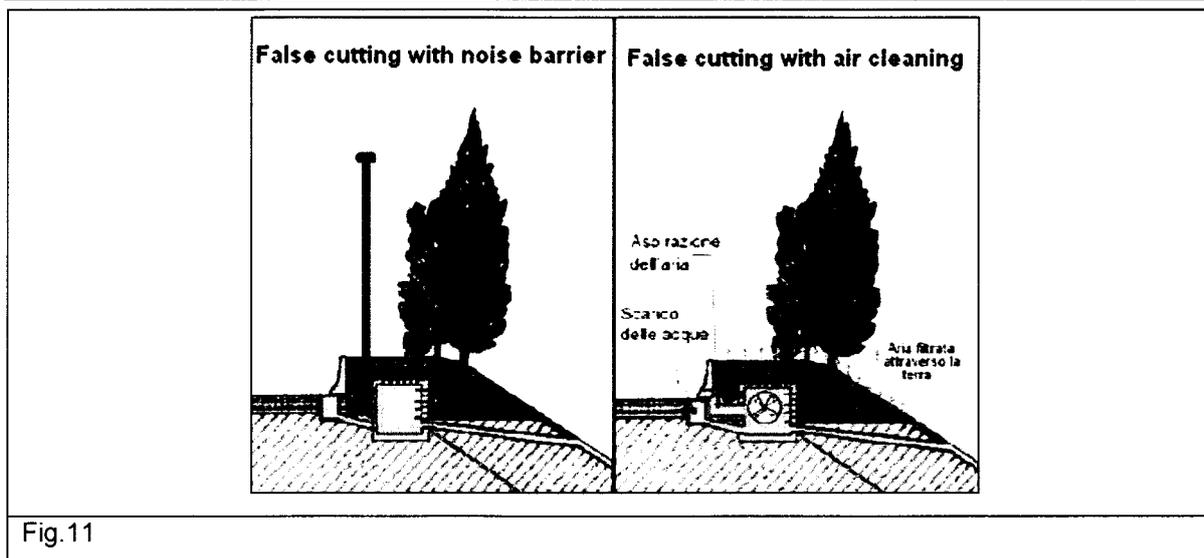

Fig.11
- Do you use solution in Fig.11 to drain water?
- Do/Would you use false cutting with noise barrier (Fig.11)?
- Do/Would you use solution in Fig.11 to clean air?